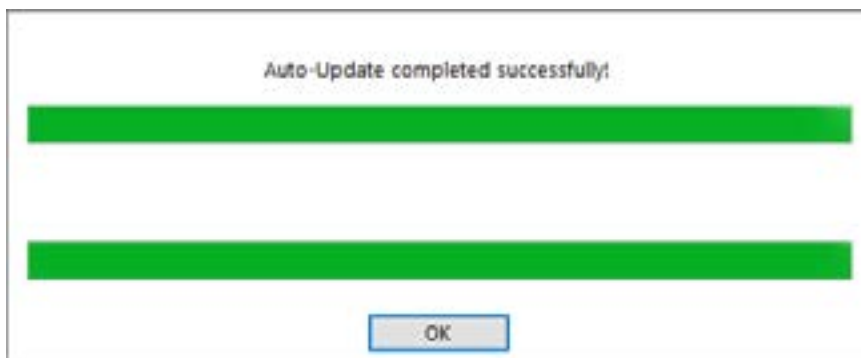
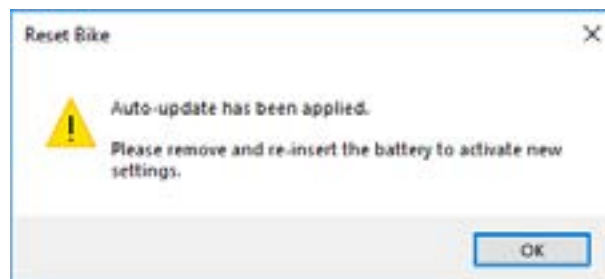

Figure 3.27 Auto-update – Completing an automatic update
Figure 3.28 Auto-update – Bicycle restart
4. Auto-update is complete once “motor learning” is complete. Click on “OK” (Fig. 3.27) and then remove (for at least 5 seconds) and reinstall the battery in the bike (Fig. 3.28).